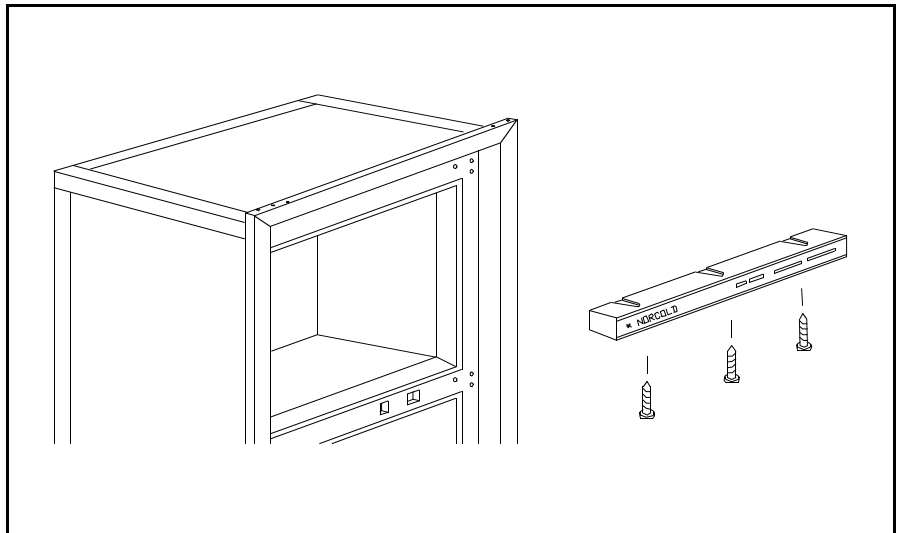

Figure 5.56 Eyebrow Removal
9. Remove the screws shown in Figure 5.56 and pull the Eyebrow assembly away from the refrigerator.